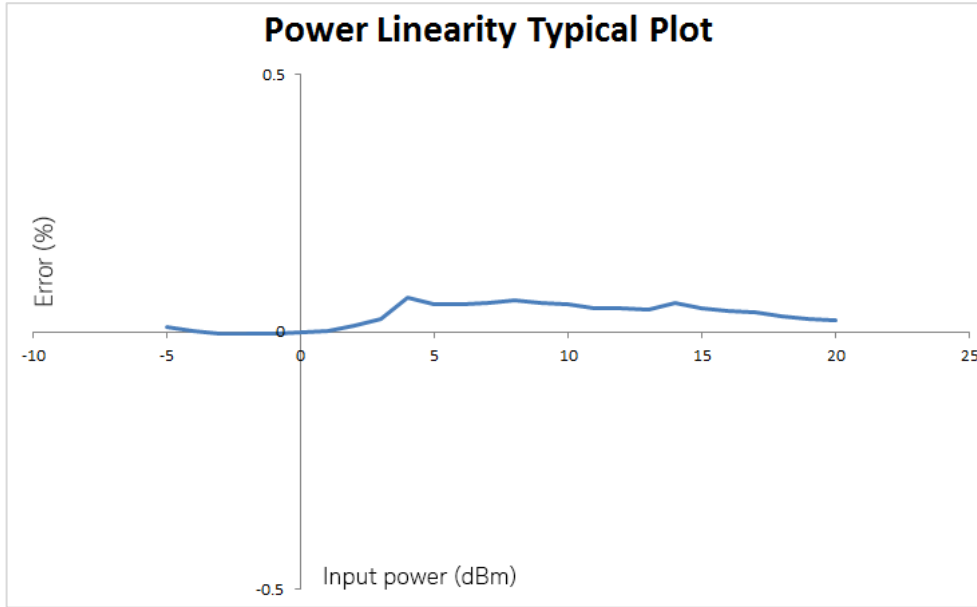

Figure 1. Typical U8480 Series power linearity at 25 °C with measurement uncertainty of  $\pm 0.21\%$
1. After zeroing and calibration at room temperature. Power Linearity is negligible below -1 dBm. Linearity specifications do not include zero set, zero noise or measurement noise that dominantly contribute to the measurement uncertainty at the power levels within 10 dB of the lowest measurable power. Typical performance is given in Figure 1.